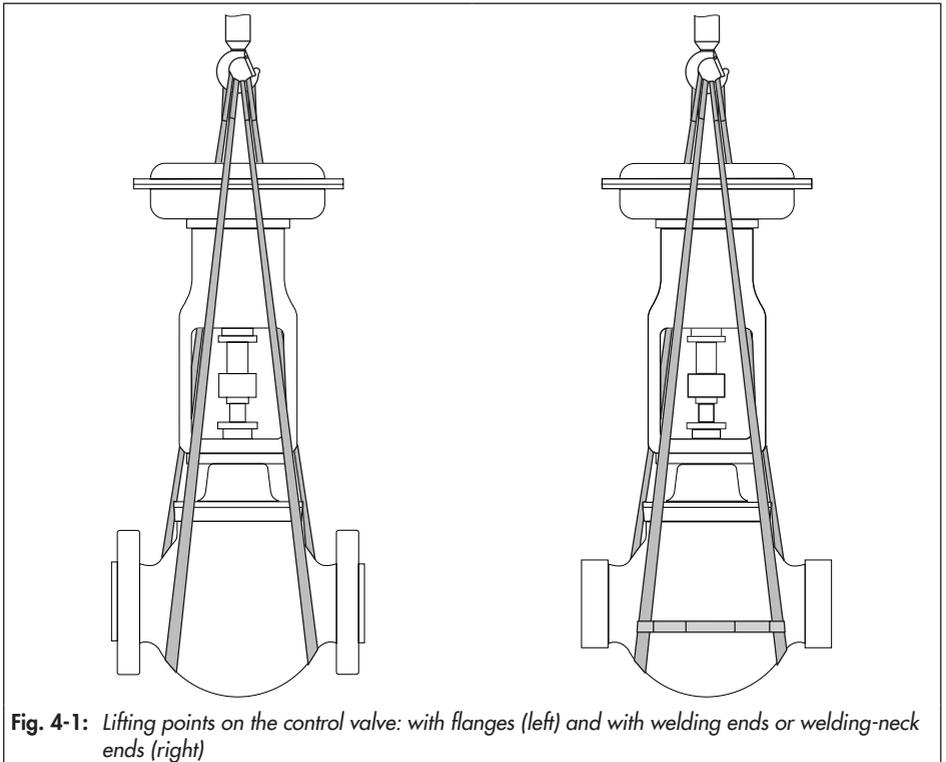

Fig. 4-1: Lifting points on the control valve: with flanges (left) and with welding ends or welding-neck ends (right)
- Use a hook with safety latch (see Fig. 4-1) to secure the slings from slipping off the hook during lifting and transporting.
1. Attach one sling (or other suitable lifting tackle) to each flange or welding end of the valve body and to the rigging equipment (e.g. hook) of the crane or forklift (see Fig. 4-1).